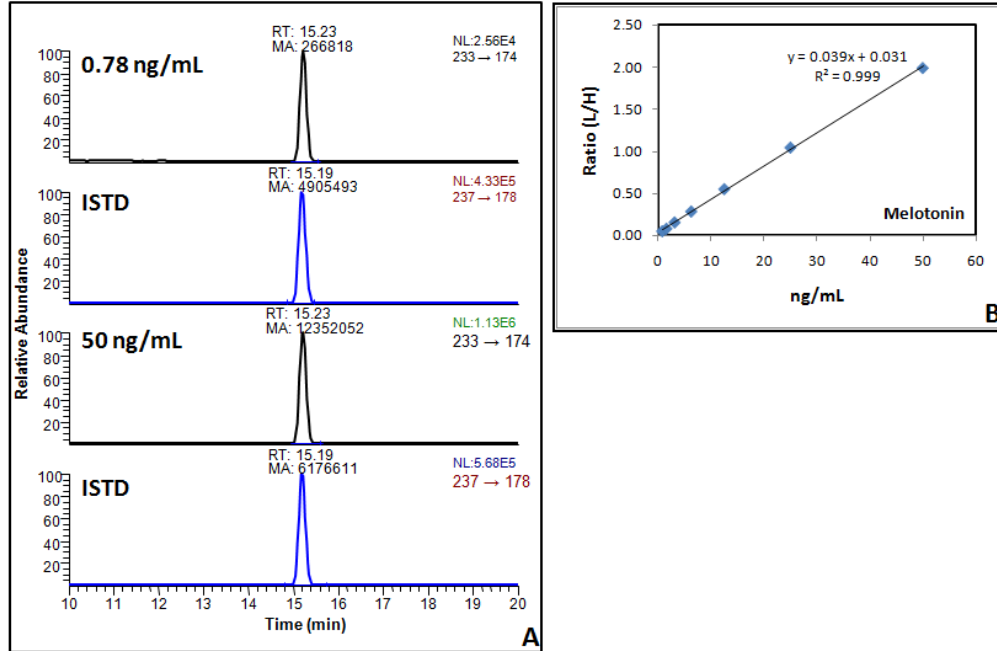

Figure 2: A) LC-SRM chromatogram of melatonin in the lowest and highest concentration. B) STD curve for melatonin.
- The typical SRM chromatogram of melatonin from the lowest (0.78 ng/mL) and highest (50 ng/mL) and the STD corresponding STD curve was shown in the figure2.